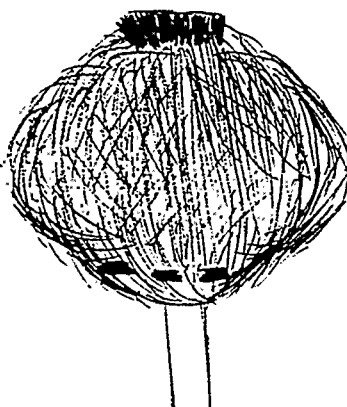

Figure 4
5) When the crown is finished, begin sewing the base of the mallet head where it meets the handle using the same strand of yarn, without cutting (see Figure 4).